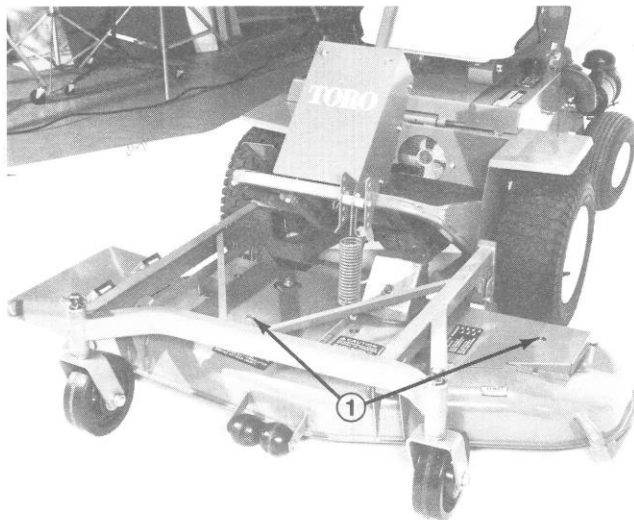

Figure 47
2. Remove capscrews and lockwashers securing pulley cover on top of spindle housing to be serviced (Fig. 47). Also remove cover over idler pulley (Fig. 47) and loosen two nuts securing idler plate in place. This will release tension on the drive belt.